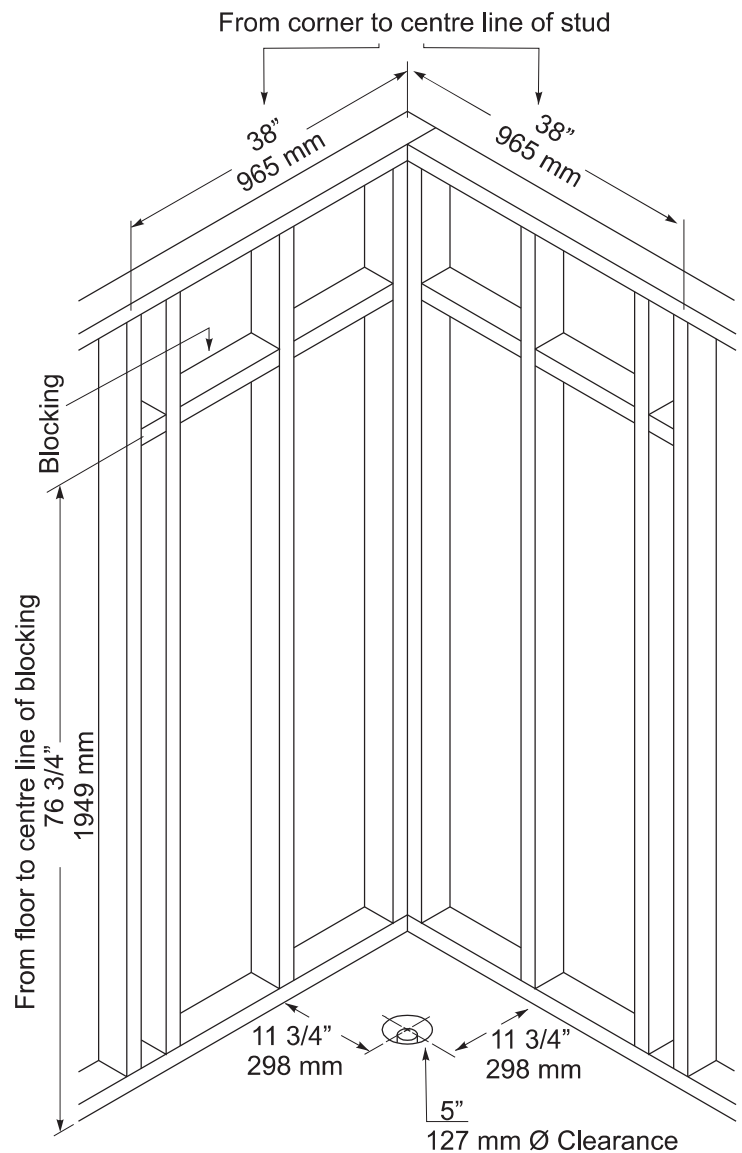

FIGURE 1 - PREPARATION
1. Install framing and blocking as shown in Figure 1.
3. Figure 1 shows drain location and clearance.